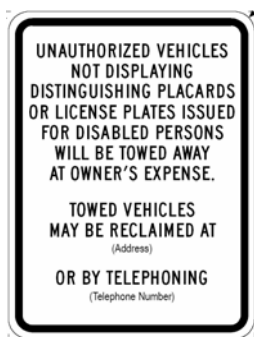

Figure 1
1. Do you have a sign that looks like Figure 1 posted at every1 entrance to your parking area? Does it have a white background with black letters?2? [**NOT** blue & white] (see larger picture at Page 8)